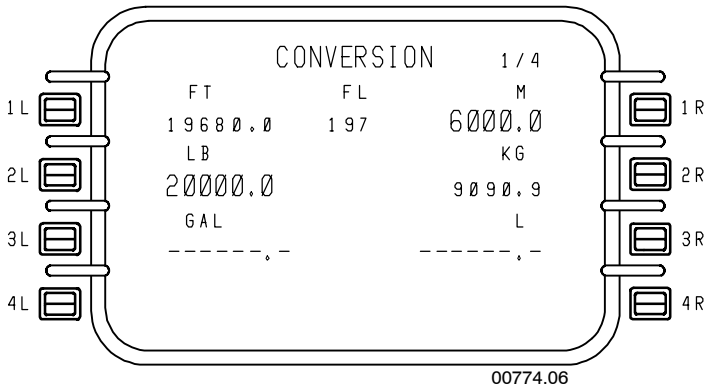

Figure 6-153
- **1R** – Entry of meters on this line will result in a display of the equivalent Flight Level (FL) and feet at 1L, as shown in Figure 6-153. Note that in some locations of the world, the metric altitude assigned by ATC does not round to the nearest FL. The FMS has been designed to accommodate these conditions. **The pilot is responsible to verify that the FL displayed by the FMS agrees with the metric altitude conversions displayed on enroute navigation charts.**